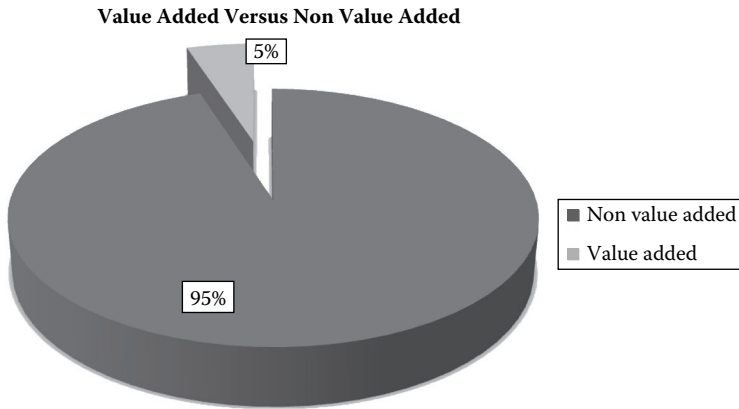

Figure 1.2 Value-added/nonvalue-added principle.
To summarize, in order to determine the value-added activity, we need to identify the customer, specify his/her needs, and determine which activities directly meet those needs. The customer in this process is you, the patient needing the exam. Your “needs” include the examination and the corresponding results. The value-added activities would be the actual exam (which takes minutes) and the actual reading of the exam (which also takes minutes). But, what about the cleaning of the table, the preparing for the exam, the transcribing of the results, the charting of the activities, the sending of an invoice, etc. These are all classified as nonvalue-added activities. The understanding of value-added (VA) and nonvalue-added activity (NVA) is the first lesson that must be learned in improvement, and it is not always an easy lesson to understand. When we can understand both VA and NVA activity, we can start to look at the ratio between the two activities. A typical process is 95% NVA to 5% VA. World-class organizations understand this and take advantage of the insight this ratio provides (Figure 1.2).